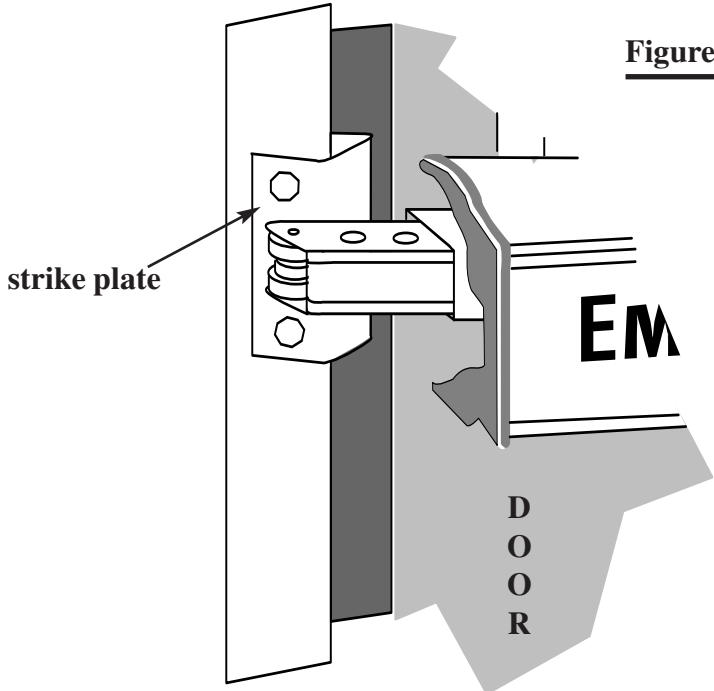

Figure 17
1. Position strike plate (part no. 15) on the lock side of the door by centering it under the roller bearing. Mark the center of the holes on the door frame (Reference Figure 17).